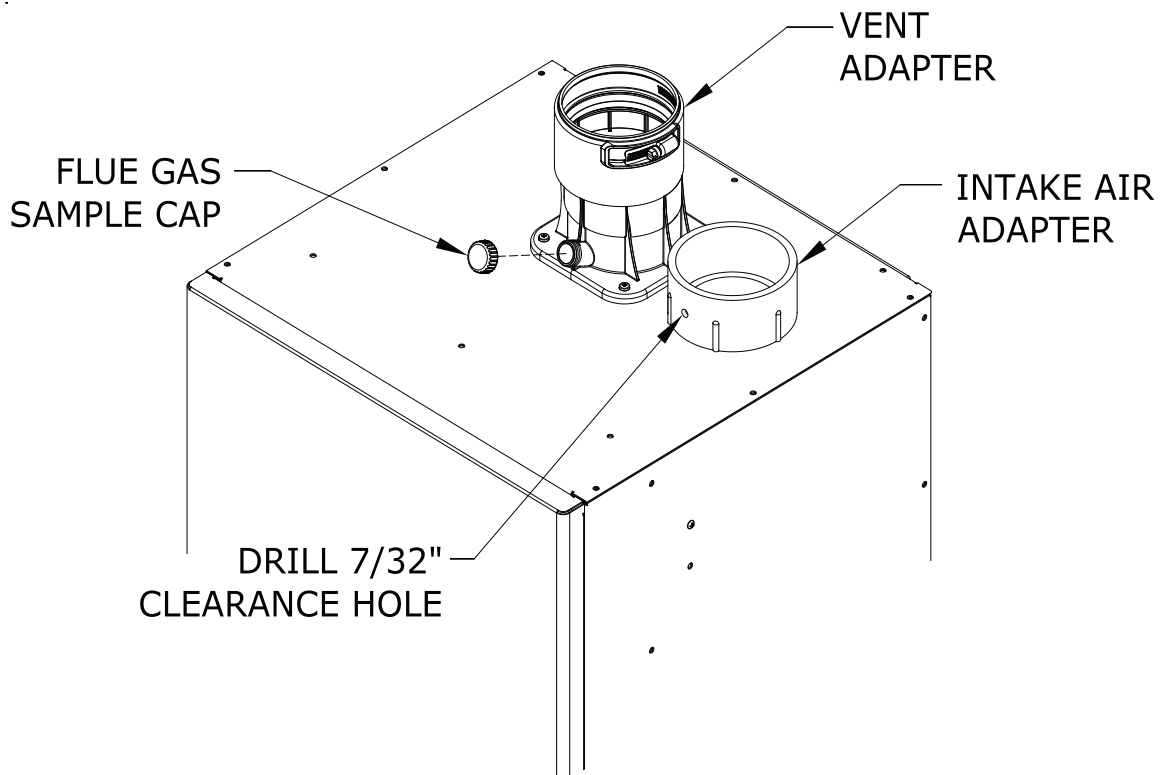

Figure 7.27: Vent Connections and Flue Gas Sample Cap Location
Never leave the boiler in operation without the gas sample cap in place (Figure 7.27).
- a. The vent adaptor has three different inside diameters. The middle inside diameter accepts 3" nominal PolyPro (Figure 7.27). A locking band clamp in the adaptor prevents the vent pipe from coming out of the adaptor once it is installed and tightened. Lubricate the upper gasket in the vent adaptor with soapy water and insert the first piece of 3" PolyPro into the adaptor until it bottoms out. Tighten locking band clamp to secure vent pipe.